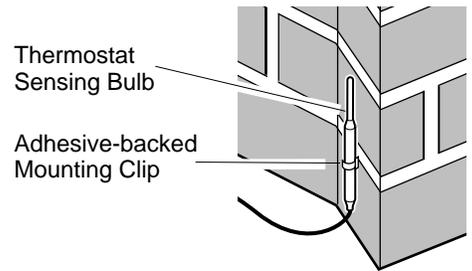

Figure 34 - Locating Thermostat Sensing Bulb on Masonry Fireplace
3. The thermostat sensing bulb may be located to the lower right front side of fireplace. Determine location of sensing bulb, but do not mount sensing bulb until step 5. If you have a masonry fireplace, see Figure 34 for location.